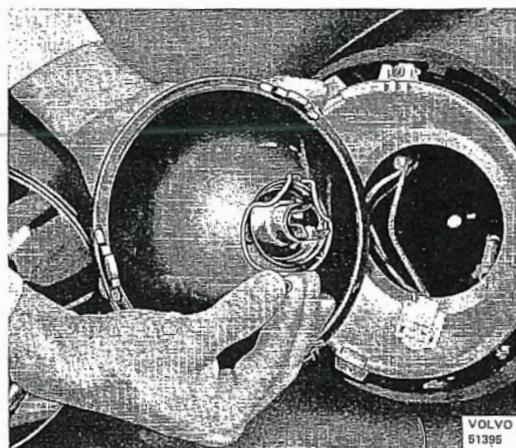

Fig. 3-86. Removing bulb holder
2. Lift off the spring holding the bulb holder at the insert and lift out the holder, Fig. 3-86. Then remove the old bulb.